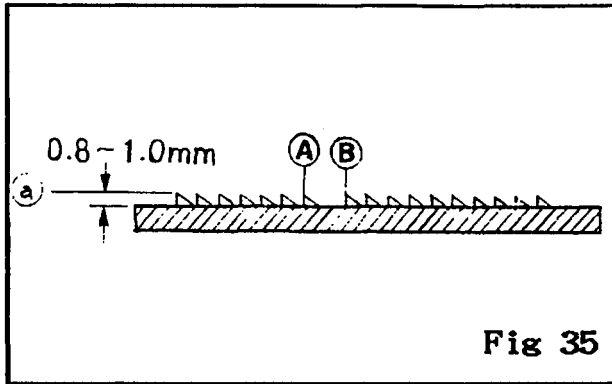

Fig 35
1.The height of Main Feed dog is 0.8 - 1.2mm when it is in the highest position. (Fig 35)